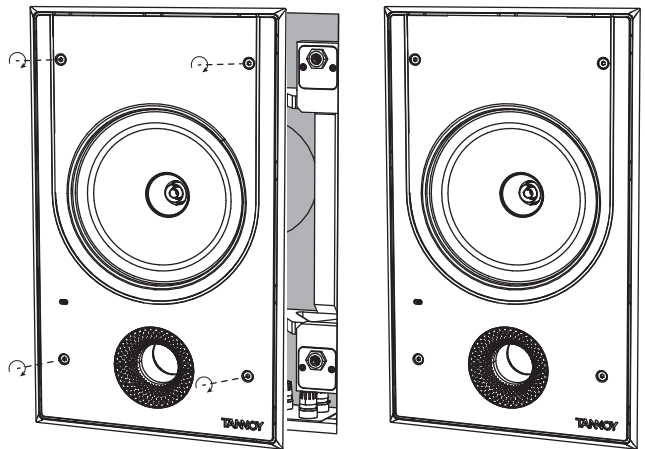

Fig. 2. Installation into the Back Can
2. Install the loudspeaker assembly into the back can, by first pressing in the four screws as far as they will go, and then hand-tightening (Fig. 2). Make sure that you do not trap the speaker wiring, or your fingers during the installation.